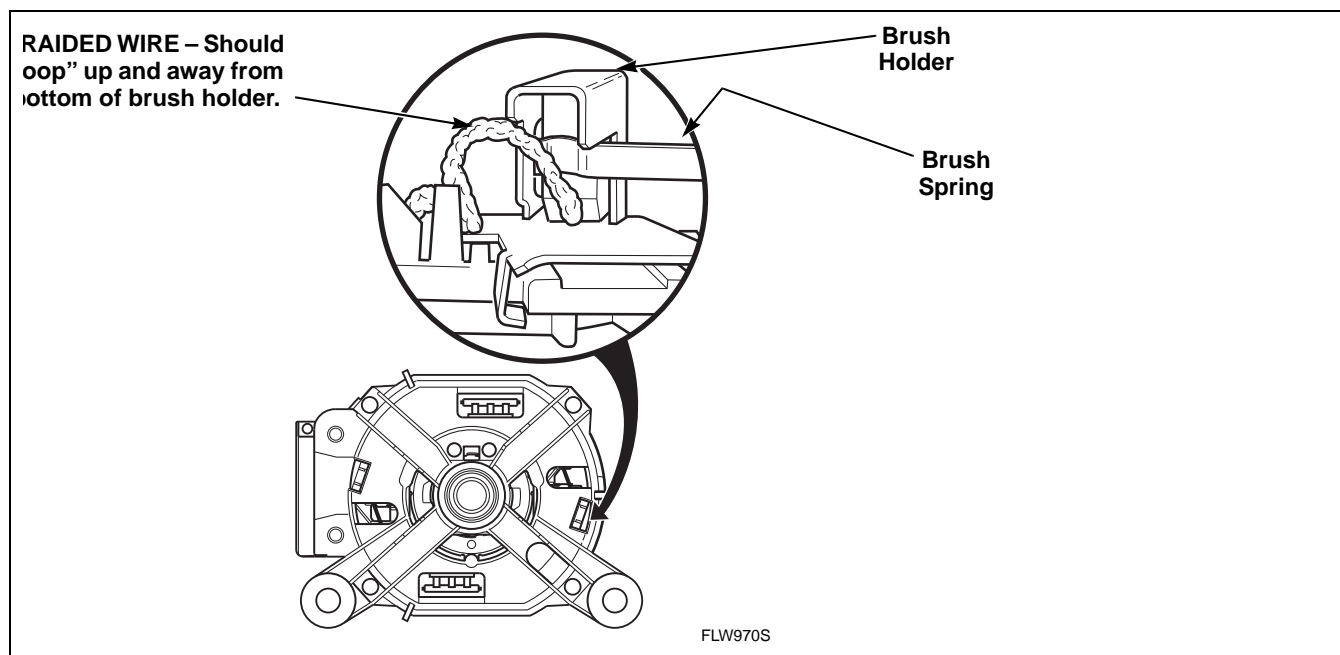

Figure 13
- After determining which brush assembly is binding, carefully use the tip of a small screwdriver to unsnag and reposition the braided wire. Refer to *Figure 13*. Make sure spring is making unobstructed contact with the end of the brush. Rotate armature by hand to assure that brushes are seated.